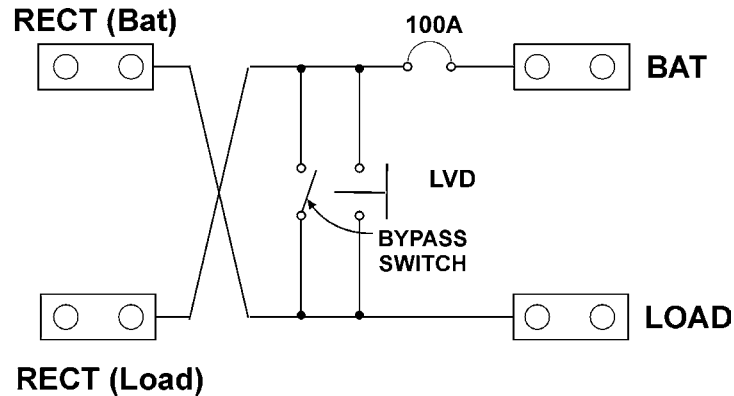

Figure 2. Simplified Diagram of LVD1U
- 9.1 Figure 2 shows a simplified diagram of the LVD1U circuit for both the A or B side.